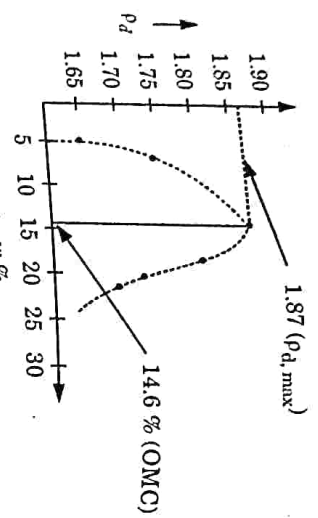

Fig. 3.7.1.
- 2. Curve between dry density and water content as shown in Fig. 3.7.1.